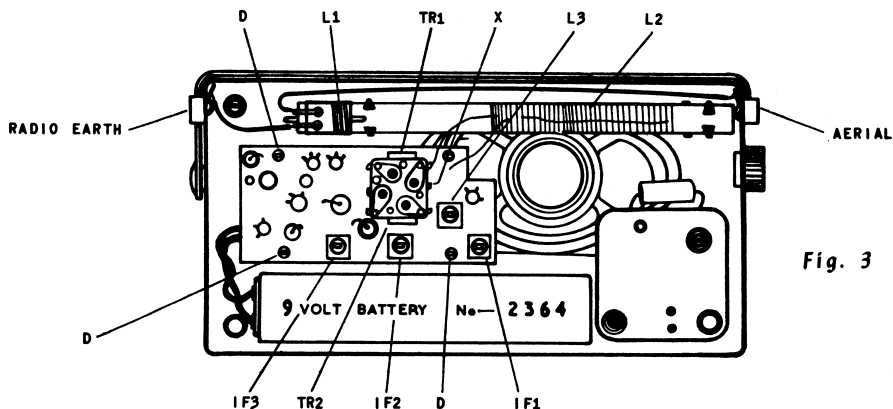

Fig. 3
2. Remove 4 screws marked D - FIG. 3.